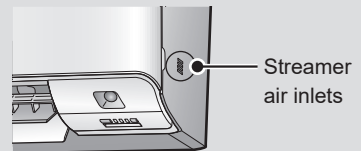

Fig. 1
- Do not block the air inlets of the streamer with any objects (**Fig.1**). Impaired airflow may result in insufficient performance or trouble with streamer operation.